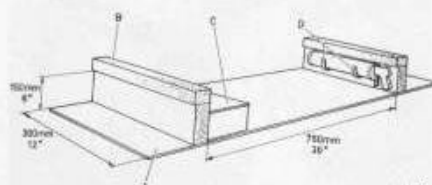

Fig. 39. Stand for windscreen when fitting rubber strip.
1. Place the windscreen on a stand as shown in Fig. 39. Moisten the outer edge of the windscreen and fit the rubber strip starting at one of the corners. Adjust the strip so that it lies correctly all round.